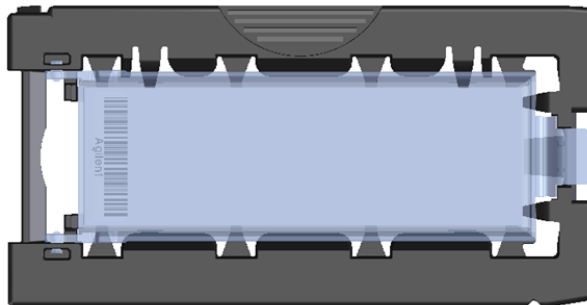

Figure 11 Slide holder – closed with slide
- g Close the plastic slide cover, pushing down on the tab until you hear it “click”. See Figure 11.